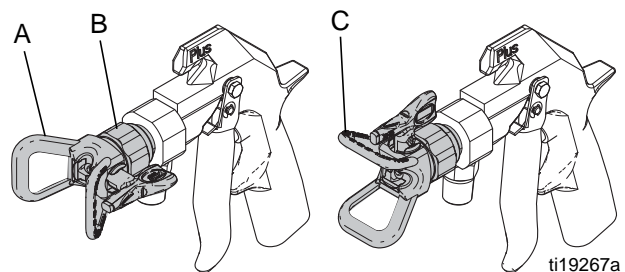

FIG. 3
1. To adjust the spray pattern direction, relieve pressure. Loosen the tip guard retaining nut (B). Rotate the tip guard as necessary to achieve a vertical (C) or horizontal (A) spray pattern. See FIG. 3. Tighten the nut.